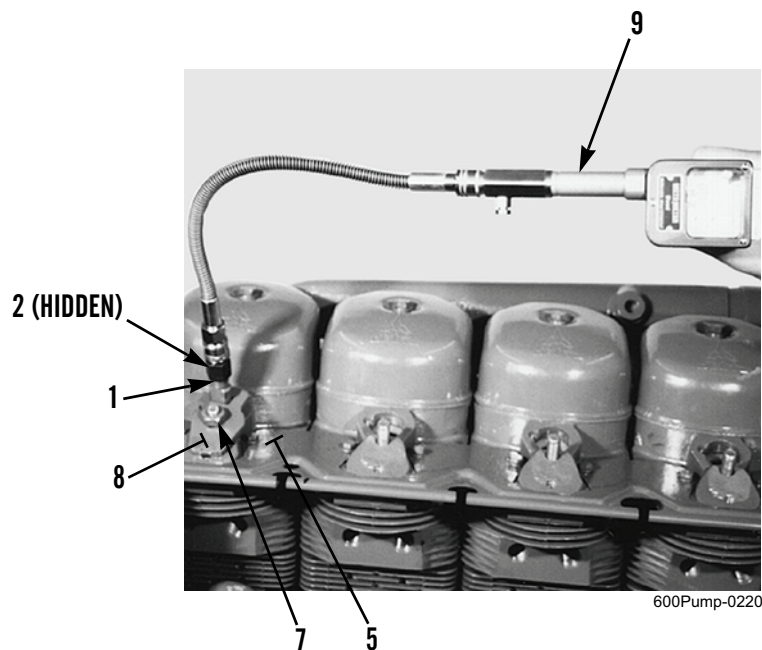

Figure 3. Measuring Engine Compression.
5. Attach compression tester (Figure 3, Item 9) to adapter (Figure 3, Item 2).
6. Crank engine (WP 0006) and record measurement from compression tester (Figure 3, Item 9).
7. Remove compression tester (Figure 3, Item 9) from adapter (Figure 3, Item 2).
8. Remove nut (Figure 3, Item 7), clamping pad (Figure 3, Item 8), and connector tool (Figure 3, Item 1) from cylinder head (Figure 3, Item 5).
9. Remove adapter (Figure 3, Item 2) from connector tool (Figure 3, Item 1).